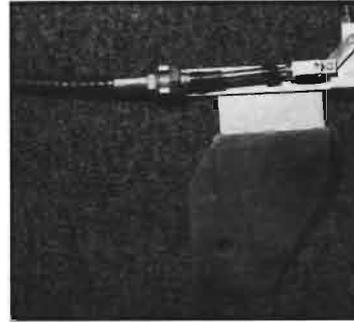

Fig 1
- A mechanical fuel metering valve (Fig 1).
In the first case (Fig.1), the conditions include Blue forces deployed in a linear formation with considerable firepower forward, but lit-